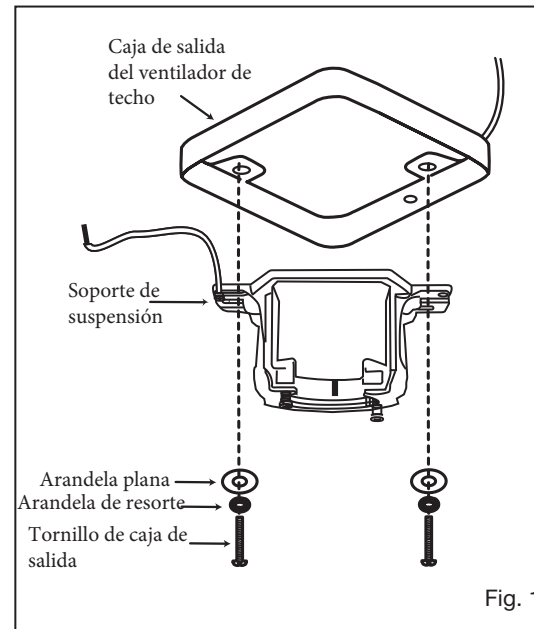

Fig. 1
- 1 Remove ball from downrod by loosening set screw in the side of the ball. Slide ball down and remove cross pin; remove ball. (Fig. 1)